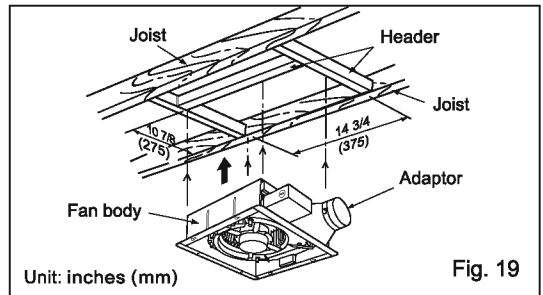
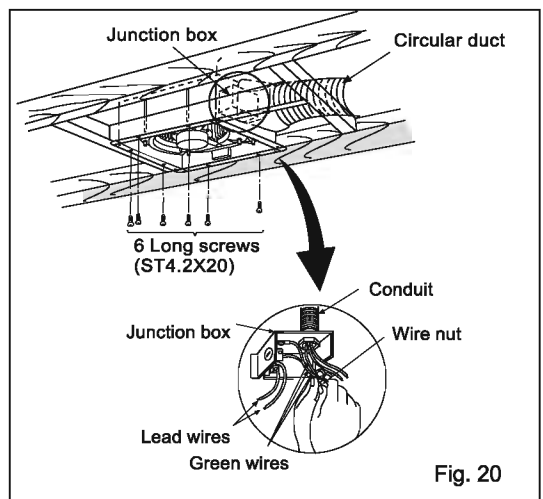

Fig. 19
Fig. 20
3. Install the ventilating fan and secure it by using long screws (ST4.2X20). (Fig. 19, Fig. 20)